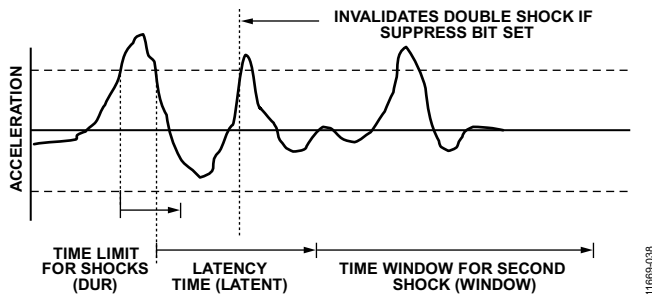

Figure 34. Double Shock Event Invalid Due to High g Event When the Suppress Bit Is Set
- If the suppress bit in the SHOCK\_AXES register (Bit D3, Address 0x2A) is set, any acceleration spike above the threshold during the latency time (set by the latent register) invalidates the double shock detection (see Figure 34).